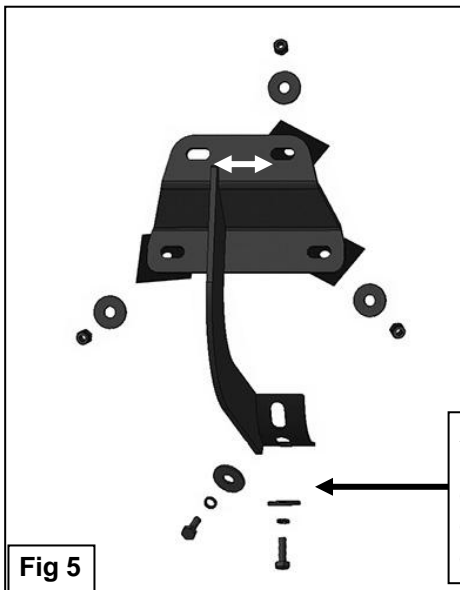

Fig 5
5. Select the driver/left Sidebar. Carefully position the Sidebar onto the (3) Mounting Brackets.
IMPORTANT: Do not slide, (front to back or rotate), the Sidebar on the Brackets or damage to the finish on the Sidebar may result. Attach the Sidebar to the Mounting Brackets with (4) 8mm x 25mm Hex Bolts, (4) 8mm Lock Washers and (4) 8mm Flat Washers, **(Figure 5)**. Do not tighten hardware.